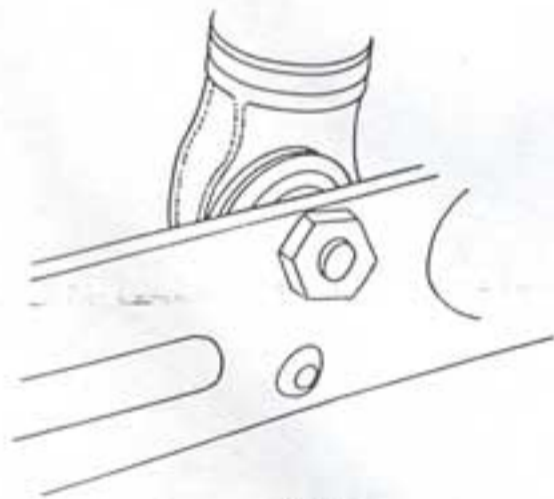

Fig. 1
- Remove the locknut on the shock absorber lower mounting bolt (13mm open wrench, fig. 1).